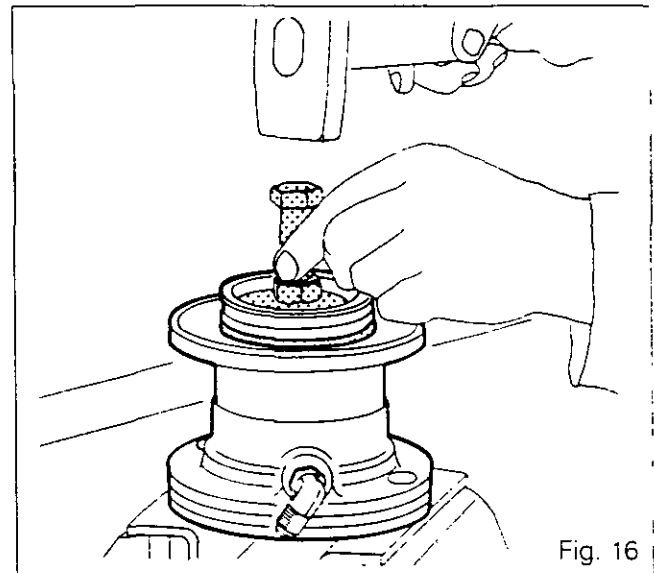

Fig. 16
25. Push the piston approximately 10 mm into the cylinder using the tool (Fig. 16)